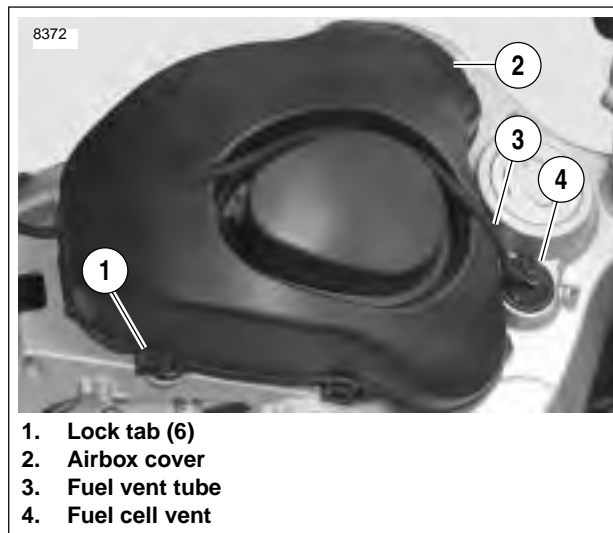
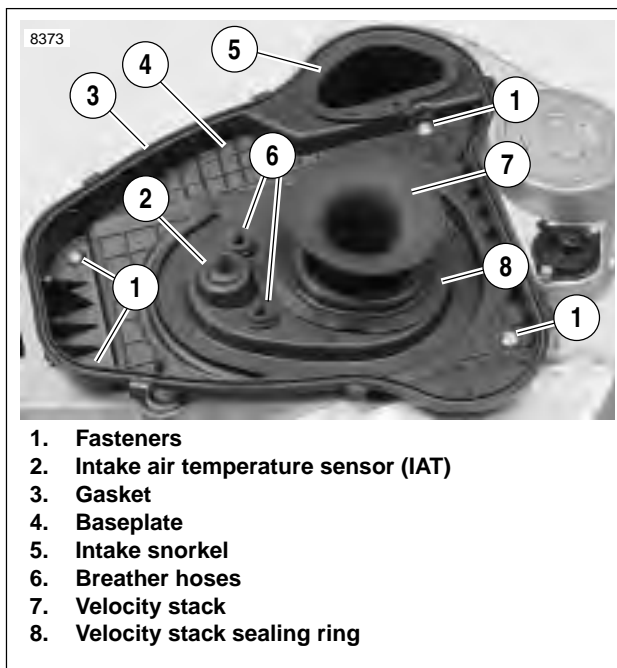

Figure 4-116. Airbox Cover (XB9)
Figure 4-118. Base Plate (All Models)
2. See Figure 4-116. Remove fuel vent tube (3) from fuel cell vent (4) and groove on top of airbox cover (2).
3. Unlatch six lock tabs (1) and remove airbox cover from baseplate.
5. See Figure 4-118. Remove airbox base plate.
- a. Remove four fasteners (1) and raise baseplate (4).
- e. Lift baseplate off of frame, carefully disengaging baseplate from rubber sealing ring (8) on velocity stack (7).
1. See Figure 4-118. Hold base plate above mounting position.